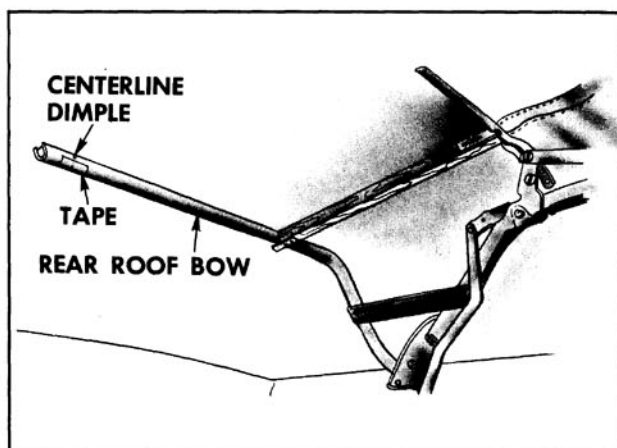

Fig. 16-449 Marking Rear Roof Bow
24. Along forward surface of rear roof bow install a 1" piece of tape at centerline dimple of rear roof bow. Using a pencil, mark centerline of rear bow on tape. (Fig. 16-449)
5. Along forward surface of rear roof bow install a 1" piece of tape at centerline dimple of rear roof bow. Using a pencil, mark centerline of rear bow on tape. (Fig. 16-449)
NOTE: The deck seam mark will vary slightly ($\pm 1/4"$) depending upon position of rear roof bow. Also check centerline mark on inner lining of top material. Mark should correspond to centerline mark on rear roof bow. (Fig. 16-449)